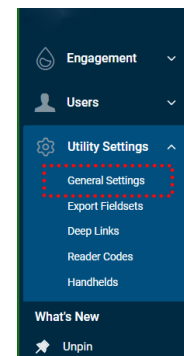

Figure 4: BEACON Utility Settings > General Settings
1. In BEACON, go to **Utility Settings** > **General Settings** (Figure 4).